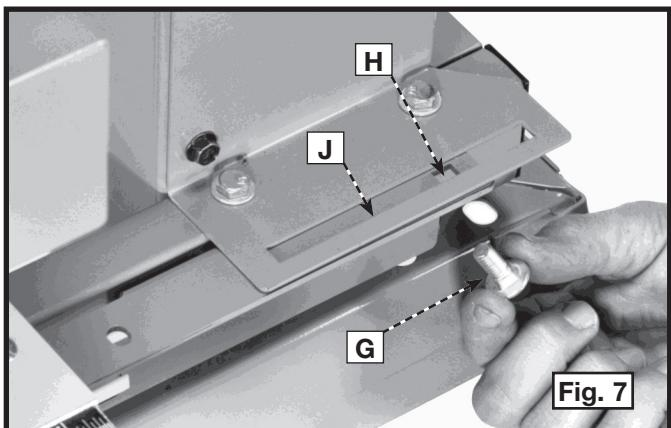
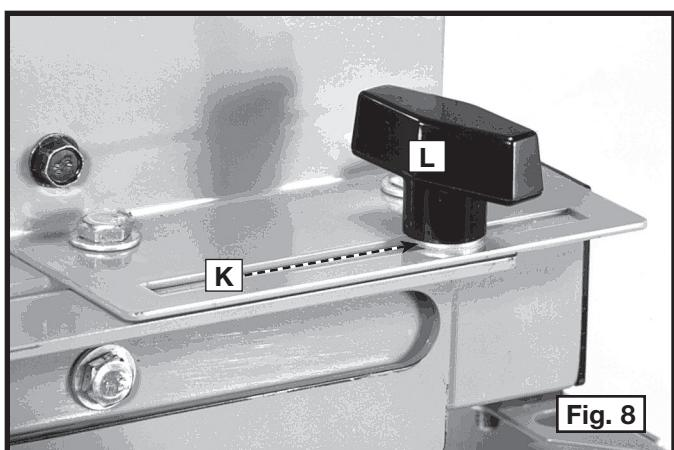

Fig. 7
Fig. 8
7. Insert the 5/16-18 x 3/4" (19 mm) carriage bolt (G) Fig. 7, up through square hole (H) and slot (J). Secure the carriage bolt using the 5/16" flat washer (K) Fig. 8 and lock knob (L).